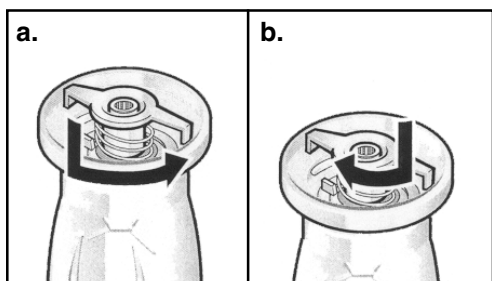

Figure 12.
1. Before using the blender for the first time, it is recommended that the blender jar cover, closure/funnel and blade/base assembly be washed. All components, except the blade/base assembly, are dishwasher safe. Remove the blade/base assembly from the blender, see figure 12.